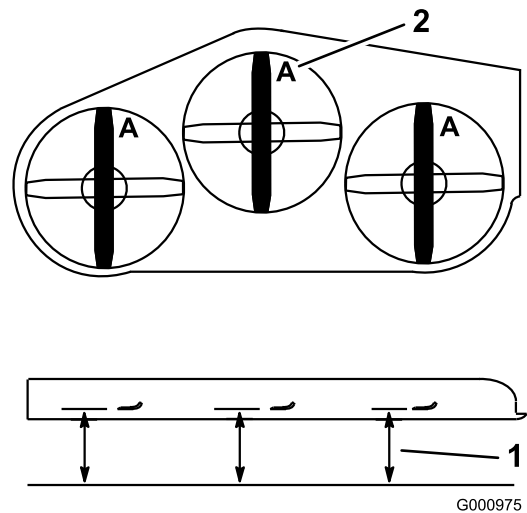

**Figure 98**
1. Inspect the cutting edges (Figure 98).
4. If you notice any cracks, wear, or a slot forming in this area, immediately install a new blade (Figure 98).